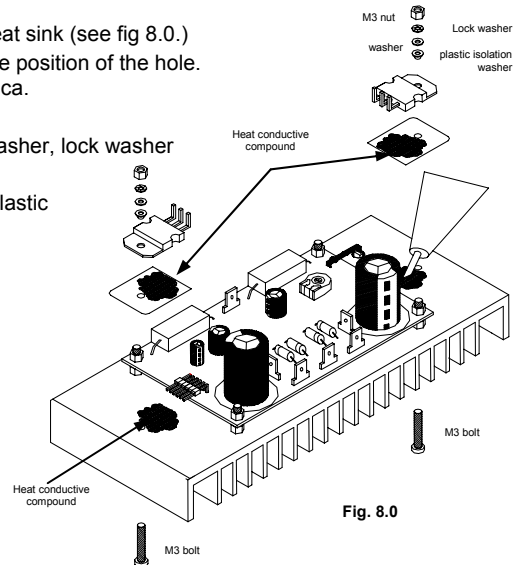

Fig. 8.0
- Apply a drop of heat conductive compound on the heat sink (see fig 8.0.)